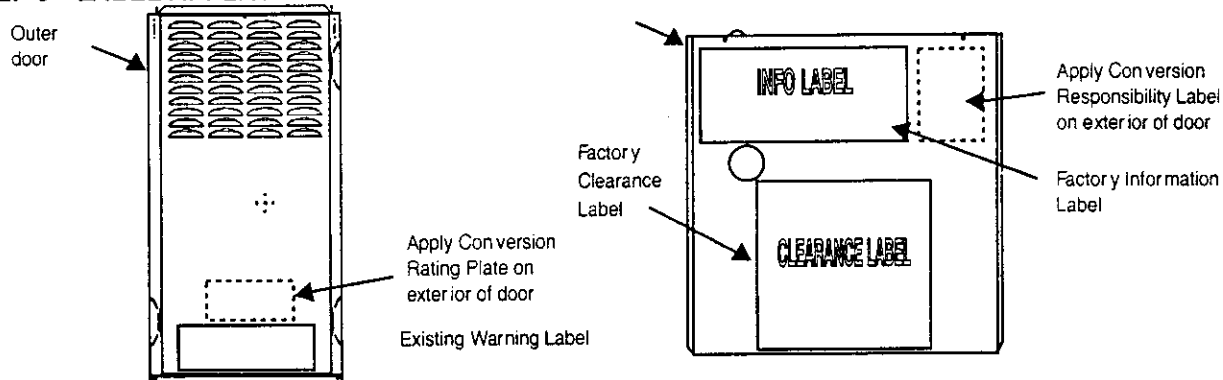

Fig. 10—Label Application
1. Fill in Conversion Responsibility Label (327697-205) and apply to Blower Access Door of furnace as shown. (See Fig. 10) Date, name, and address of organization making this conversion are required.